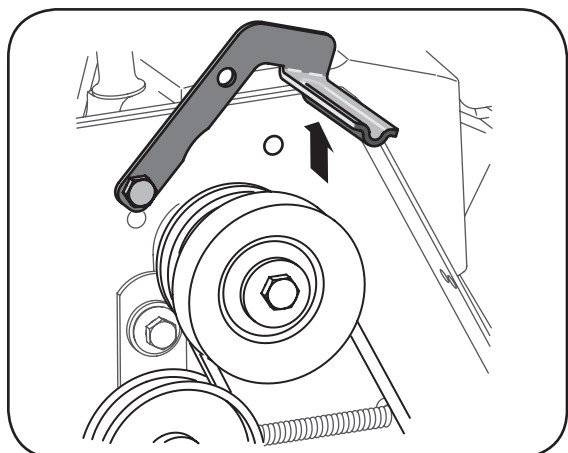

Figure 25
b. Push the belt keeper and bracket up off the engine pulley. See Figure 25.